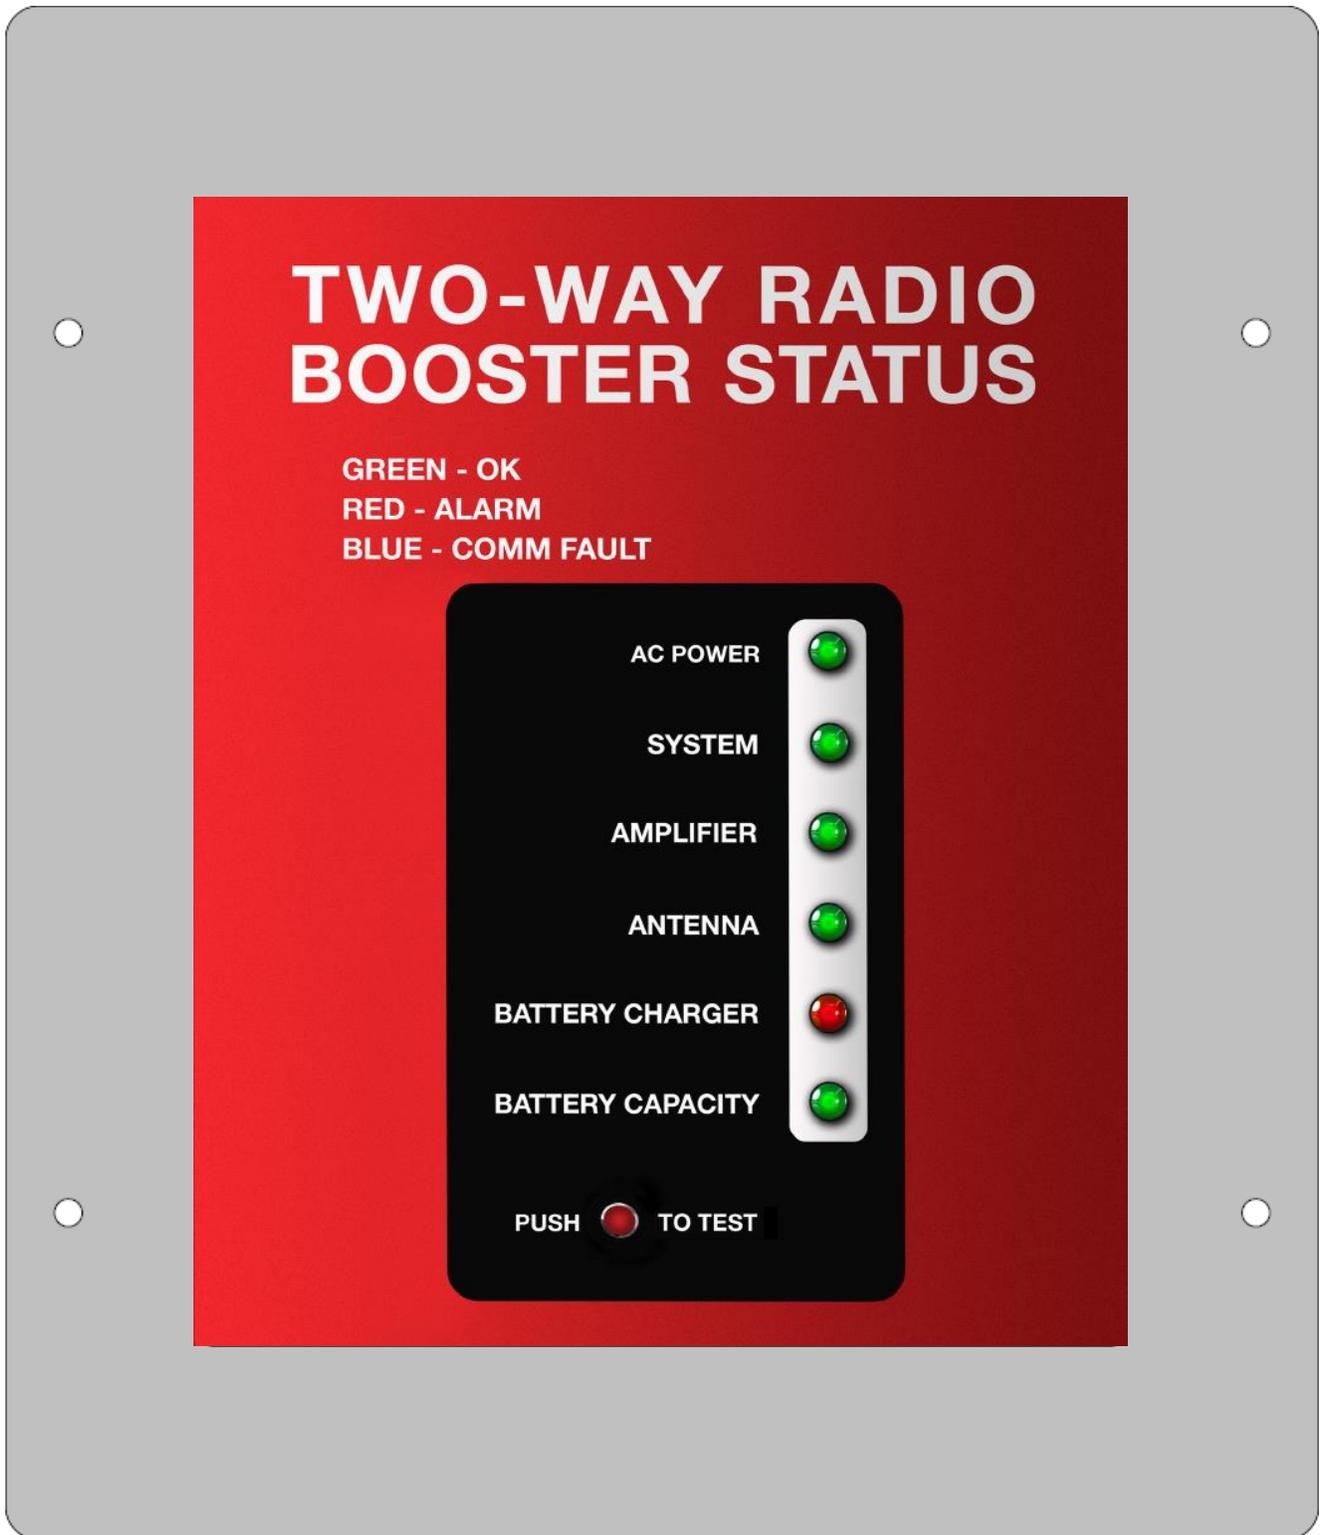

Figure 3. Attach surround trim to drywall with the 4 supplied screws and drywall anchors
5. See figure 3. Attach the trim panel using the supplied 4 screws and drywall anchors.